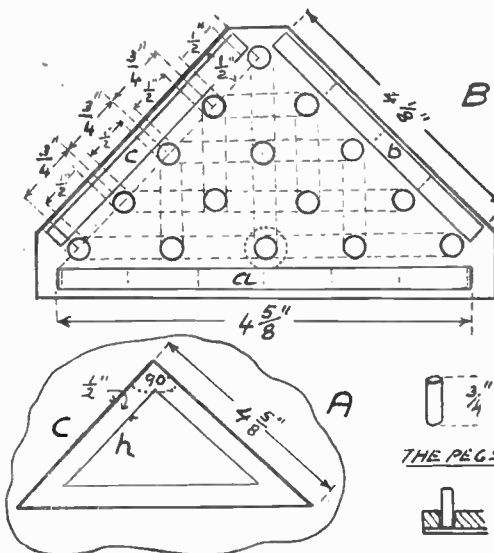

Fig. 2—Details of construction
The marking out of the board is shown in diagrams A and B, Fig. 2. Draw the triangle (C) with a right-angle at the top and sides of $4\frac{5}{8}$ ins. Scribe the line (h) $\frac{1}{2}$ in. from each of the sides and divide up, as shown in (B). At each $\frac{1}{2}$ in. space, now put a complete circle of that diameter. Join lines across between each pair of holes, also vertically downward which by their intersections give the positions of the inside circles. Mark, too, the lines at which the corners have to be cut off and draw in the three rectangles (a), (b) and (c) which are to be taken out as receptacles for the pegs.